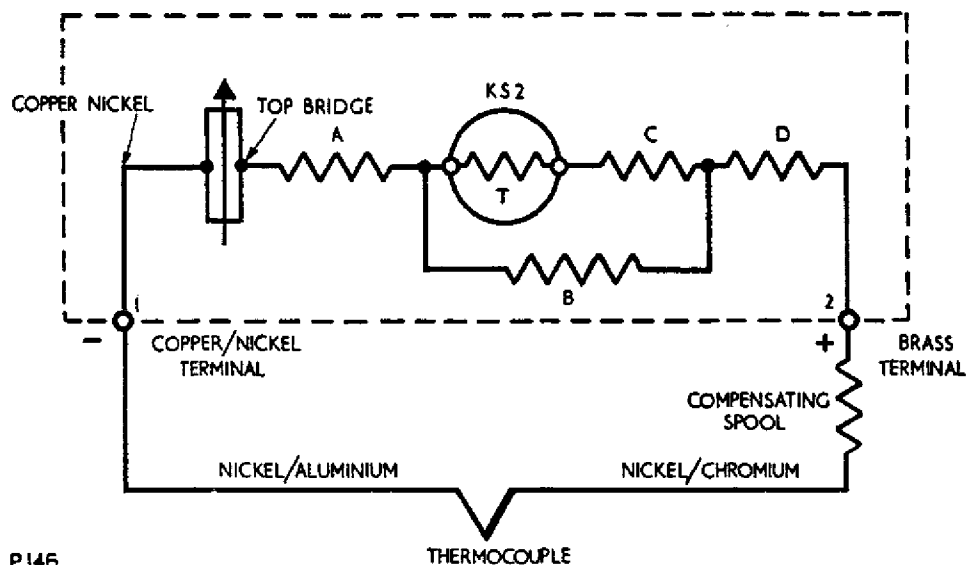

Fig.3B Circuit diagram
- (5) Check that the value of spool B is 10 ± 0.1 ohms and connect the thermistor in circuit across the spool as illustrated in Fig.3B.